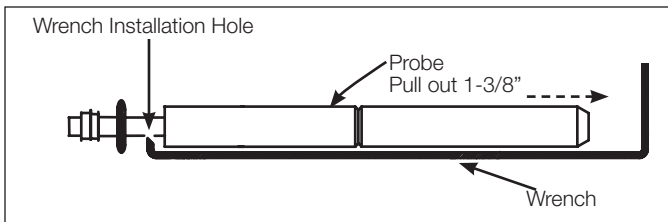

Figure 2.
- Take the loose wrench and install in wrench hole shown in Figure 2, taking care not to damage the interface of the elbow.